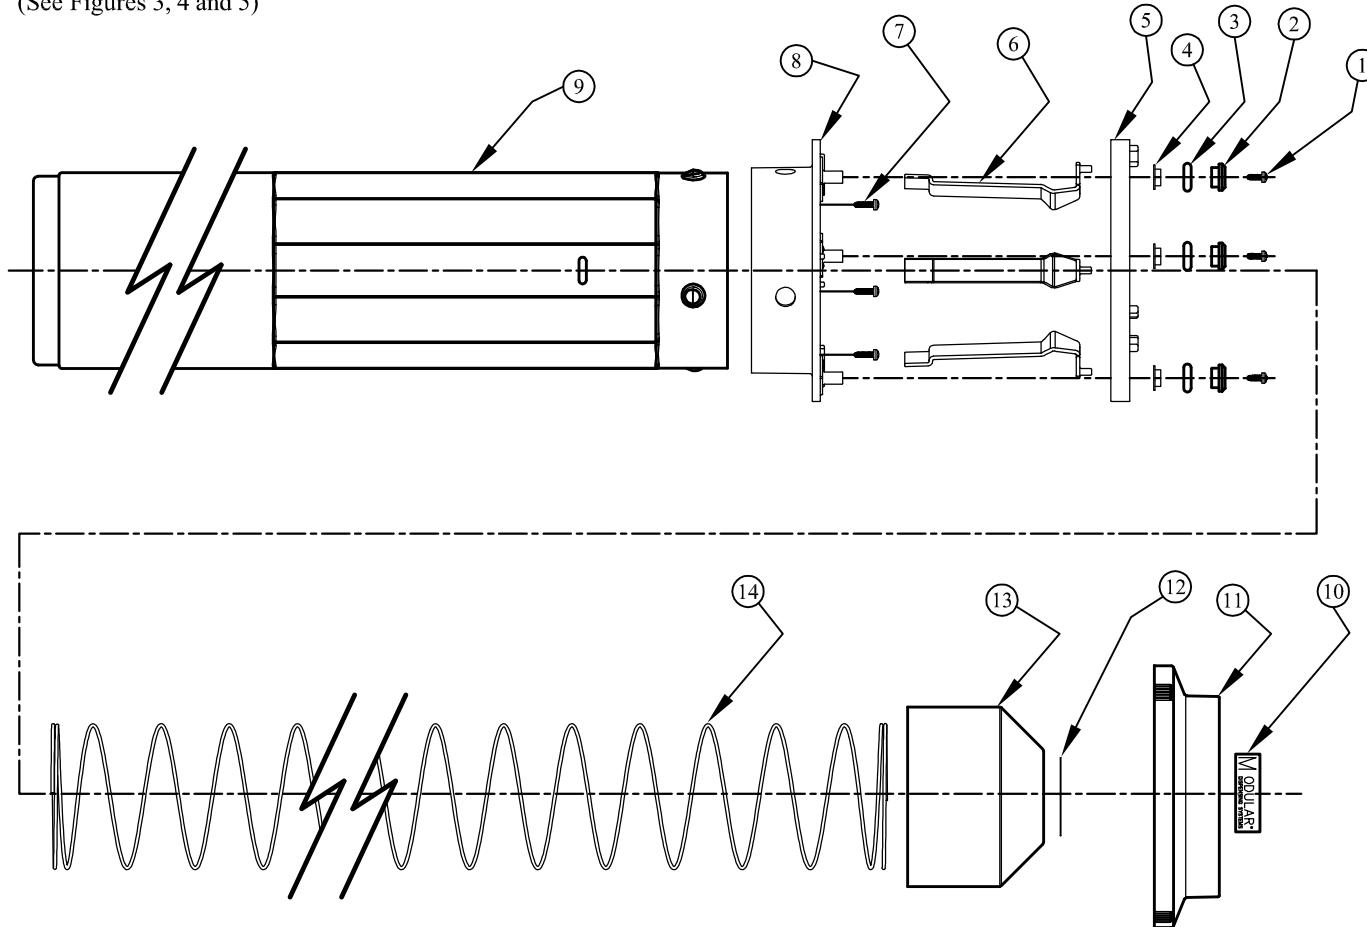

FIGURE 5
- 2.) Remove adjustable ring screws (1), studs (2), o rings (3), shoulder washers (4) and adjustable ring (5) (See Figure 5).
- 3.) Remove fingers (6) by pushing the pusher (13) towards bottom of dispenser tube (9). This allows the top of the fingers to be angled towards the center of the dispenser. The fingers can now be pulled out of the slots in the tube.
- 4.) Remove pusher (13) and spring (14).